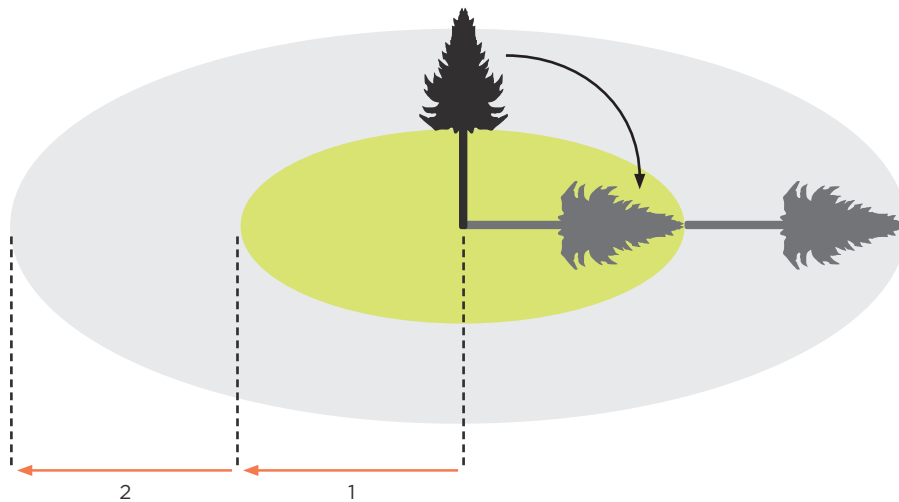

FIGURE 16:
17.4.8 Anything within two tree-lengths of the tree being thinned is in the danger zone (see Figure 16).